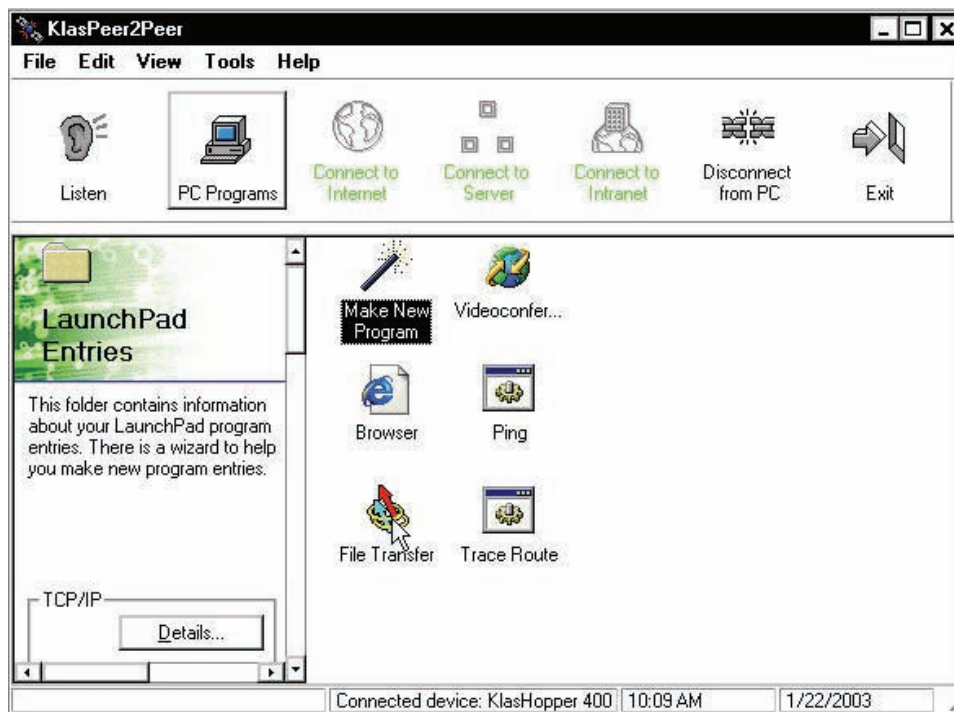

Figure 33. Selecting File Transfer icon.
- On the next screen, double click on the File Transfer icon. The icon is illustrated in Figure 33.